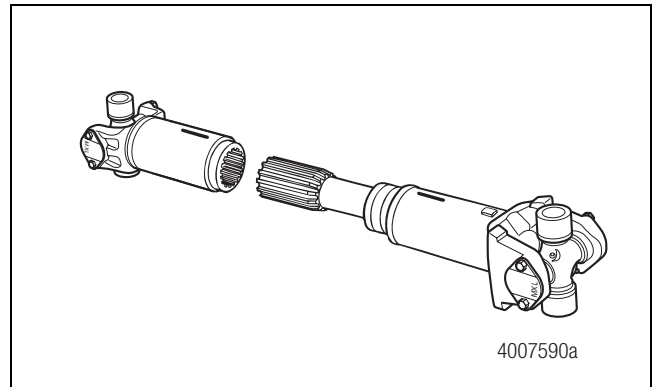

Figure 3.6
4. Pull the slip yoke and slip shaft sections apart. Figure 3.6.